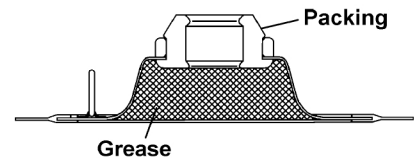

Fig. 2
*When using the follower plate for the first time after purchasing the product, pack grease beforehand in the rear-side concave portion of the plate. This facilitates the work. (Fig. 2)*